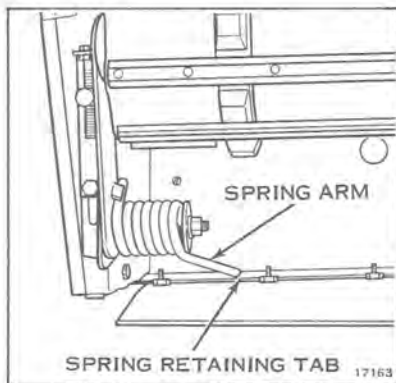

Figure 11-10
5. Assemble trucks, front and rear axle assemblies and idler assembly (molded track only) inside track and install to snowmobile chassis. The rear spring is loose when installing front and rear axles to bearing cups. Before adjusting track tension, place spring arms inside spring tabs. See Figure 11-10.